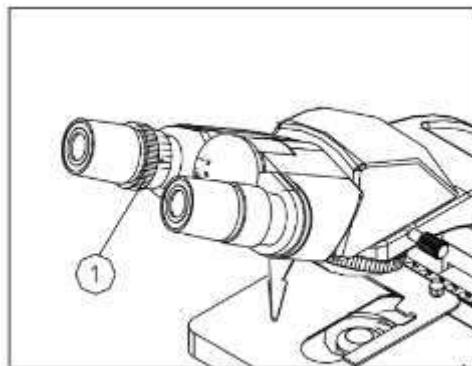

Fig.23
3.2.7 Adjusting the Diopter (Fig.23)